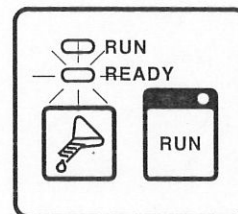
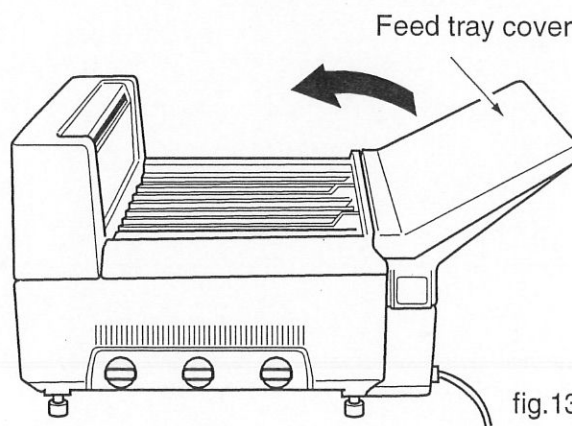

fig.12
fig.13
① Make sure that the **READY** lamp is ON. (fig.12)
② Change to safelight conditions.
③ Open the feed tray cover. (fig.13)